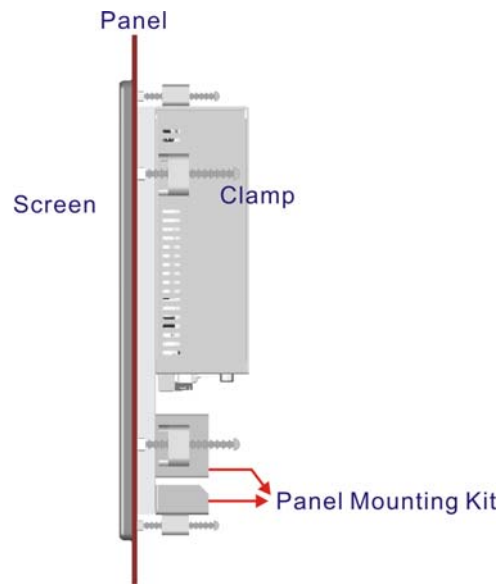

Figure 3-31: Tighten the Panel Mounting Clamp Screws
Step 6: Tighten the screws that pass through the panel mounting clamps until the plastic caps at the front of all the screws are firmly secured to the panel (**Figure 3-31**).